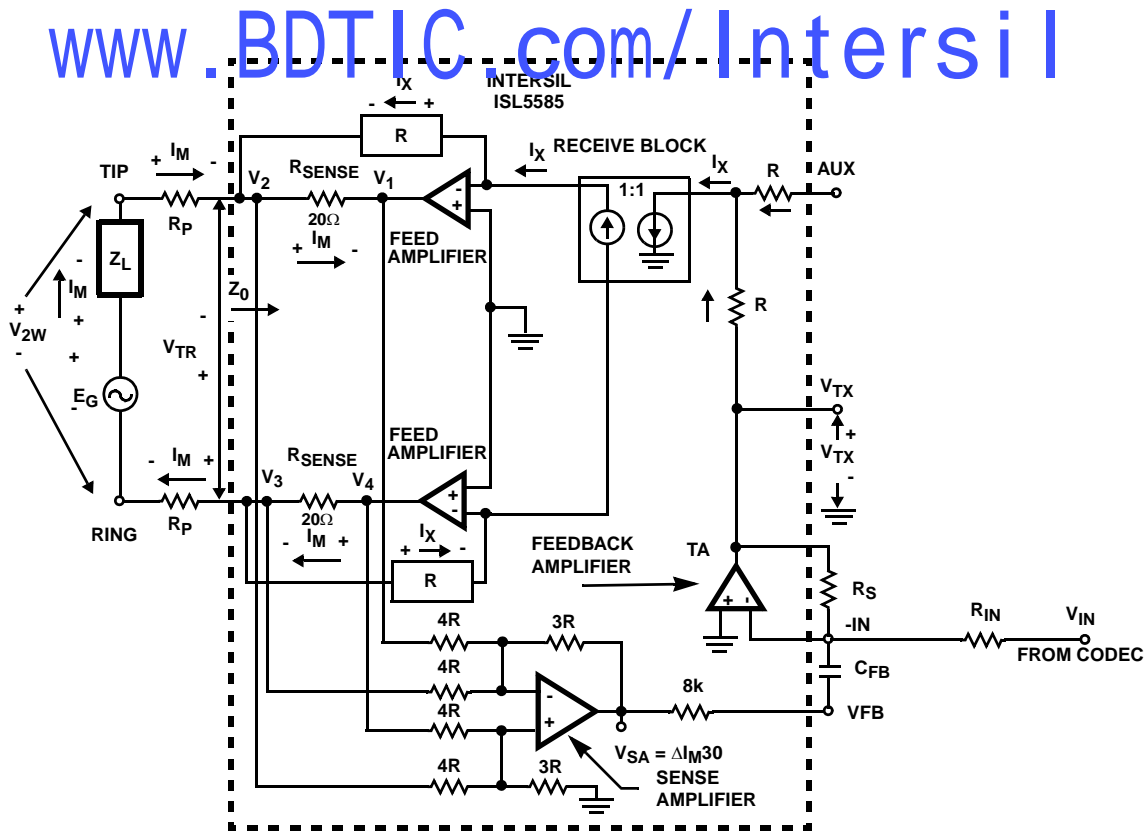

FIGURE 4. AC SIGNAL TRANSMISSION MODEL
The feedback mechanism for monitoring the AC portion of the loop current consists of two amplifiers, the Sense Amplifier (SA) and the Transmit Amplifier (TA). The AC feedback signal is used for impedance synthesis. A detailed model of the AC feed back loop is shown in Figure 4.
The Sense Amplifier is configured as a 4 input differential amplifier with a gain of 3/4. The voltage at the output of the sense amplifier (V_{SA}) is calculated using superposition. V_{SA1} is the voltage resulting from V_1 , V_{SA2} is the voltage resulting from V_2 and so on (reference Figure 4).
V_{TR} is defined in Figure 4, note polarity assigned to V_{TR} :
Node Equation at ISL5585 AUX input, Figure 4
4-wire to 2-wire gain across the ISL5585 is equal to the V_{2W} divided by the input voltage V_{IN} reference Figure 4. The receive gain is calculated using Equation 32.
The 2-wire to 4-wire gain is equal to V_{TX}/E_G with $V_{IN} = 0$, reference Figure 4.